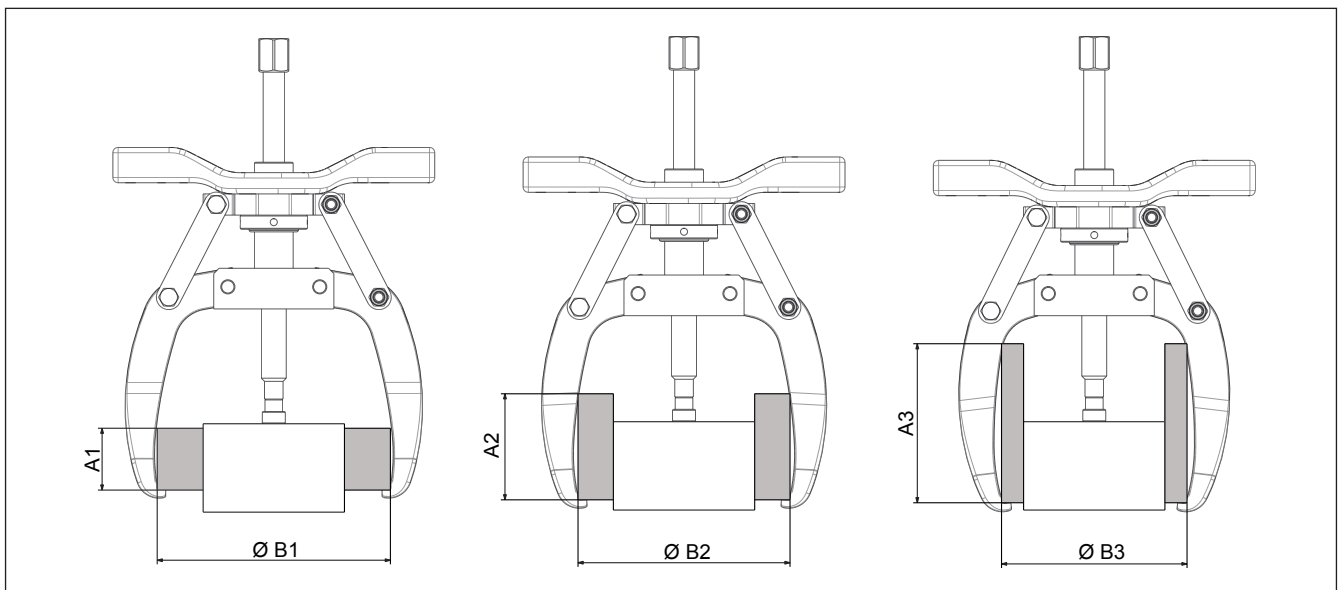

Figure 6, Puller Maximum Reach and Spread
- When installing the puller on the workpiece, refer to the maximum reach and spread dimensions contained in Figure 6. Following these important guidelines will reduce the amount of jaw and spindle deflection in the event of great force.
NOTICE The spindle and the jaws must engage the workpiece, and achieve at least the minimum reach and spread indicated in figure 6 . If additional reach is required, a spacer may be applied. place an appropriately sized spacer between the point protector and the workpiece during step 3.